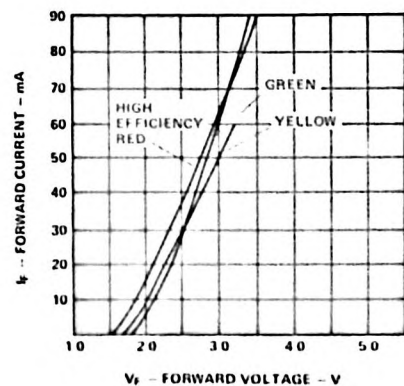

Figure 4. Forward Current vs. Forward Voltage
- Derate from $T_A = 50^\circ\text{C}$ at 0.086 V/ $^\circ\text{C}$, see Figure 4.